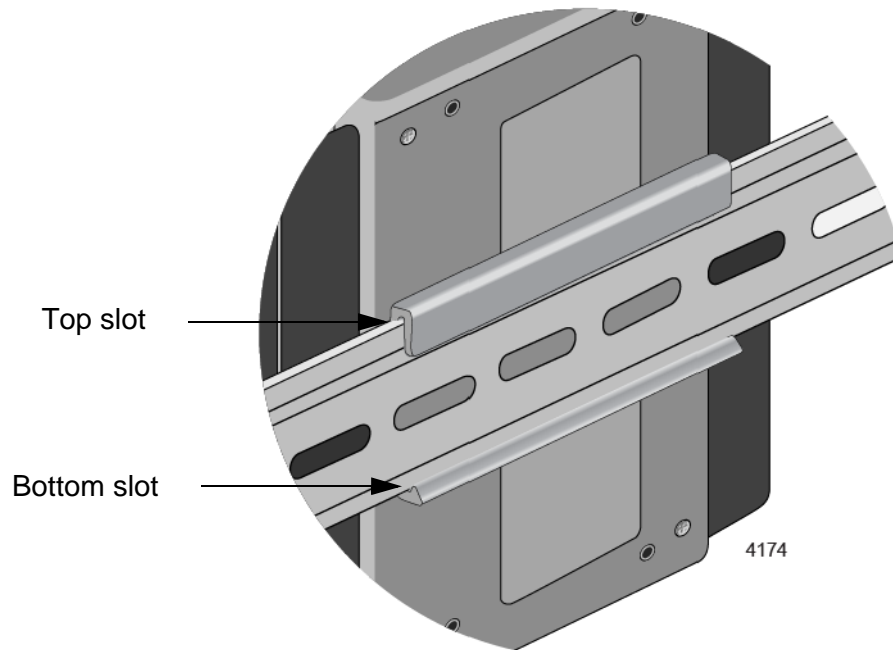

Figure 18. Verifying the DIN Rail Installation
3. Visually inspect the bracket to verify that the DIN rail is now fitted into the top and bottom slots. Refer to Figure 18.